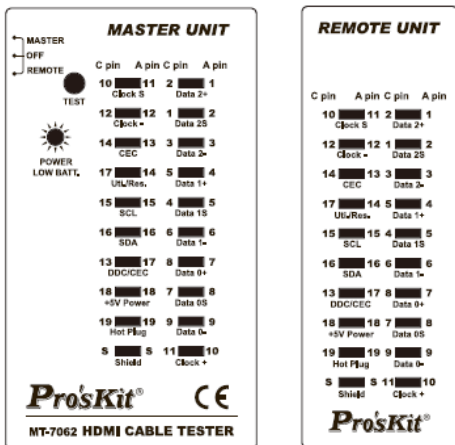
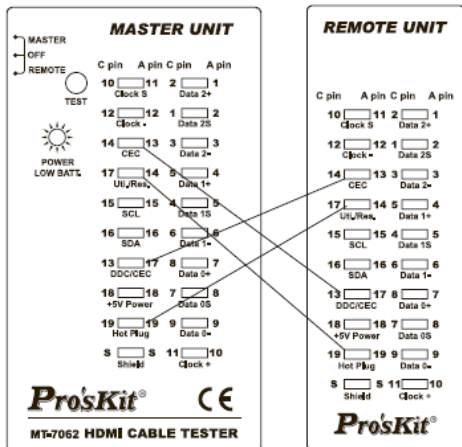

Fig 6. Straight
Fig 9. Crossover
- **Straight** : Master unit and Remote unit both testing pin #1~19 and “Shield” LEDs are all lighted up. (Fig 6.)
- **Straight** : Master unit and Remote unit both testing pins #1~19 and Shield LEDs are all lighted up in sequence. (Fig 6.)
- Crossover** : Master unit LEDs light up in sequence and Remote unit LEDs light up sequence by crossed pins, Example : test HDMI (A Type) to HDMI (A Type) cable that pin #13 with pin#17 are crossed and pin #14 with pin #19 are crossed, or test HDMI (A Type) to Mini-HDMI (C Type) cable pin #14 with pin #13 and pin #17 with pin #19 are crossed, or test Mini-HDMI (C Type) to Mini-HDMI (C Type) cable pin #14 with pin #13 are crossed and pin #17 crossed with #19 are crossed. (Fig 9.)
2. The test result please refer to the slow continuity scan testing function. (Fig 6. ~ Fig 9.)